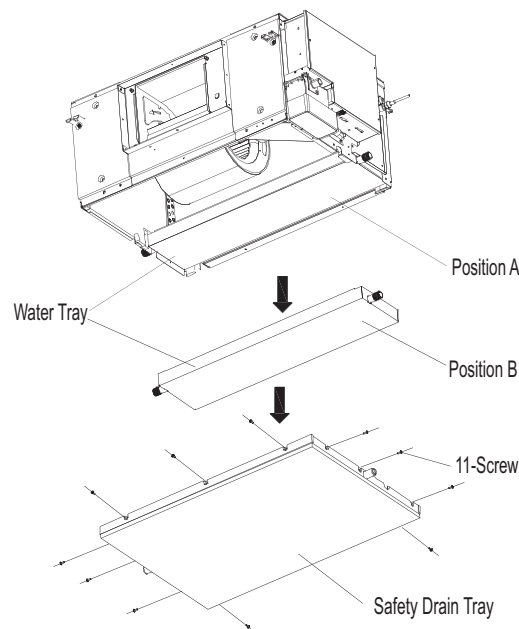

Fig. 36 — Fan Disassembly (024-036)
1. Remove the 11 screws from the Safety Drain Tray and remove the tray along the direction of the arrows in Fig. 36.